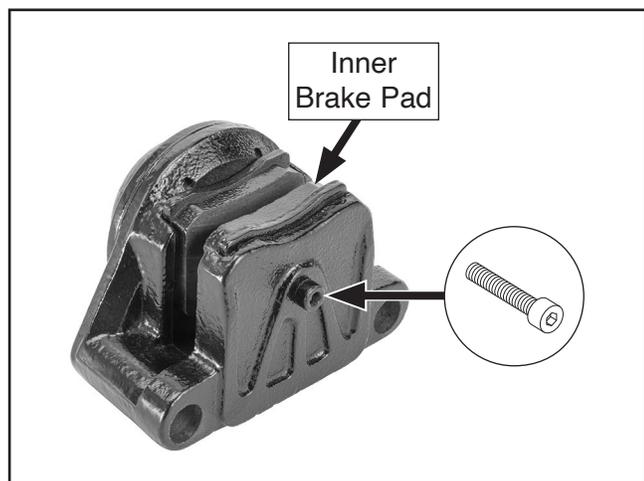

Figure 89. Location of inner brake pad and cap screw.
12. Remove inner brake pad cap screw, then remove inner brake pad (see **Figure 89**).